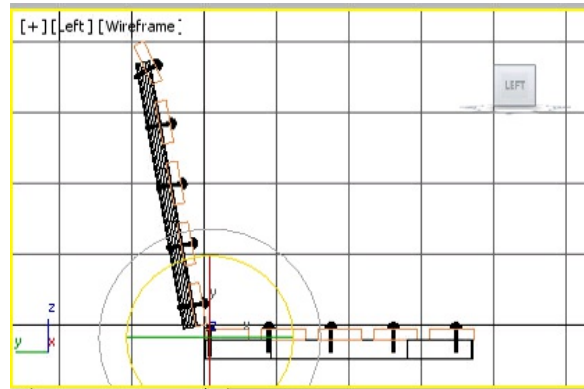

Figure 2-94 Rotating rivet in the Left viewport
11. Select the rivet which is near *horizontal back support* and choose the **Select and Rotate** tool. Move the cursor over the Z-axis. Now, press the left mouse button and drag the cursor in the clockwise direction to rotate it until the angle of rotation in the Z spinner in the coordinate display becomes around **-15**, refer to Figure 2-94.